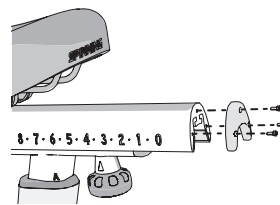

Figure 7
3. Attach the seat slider end cap **7** using three bolts **5** (Figure 7) and fully tighten with a hex key **8**.